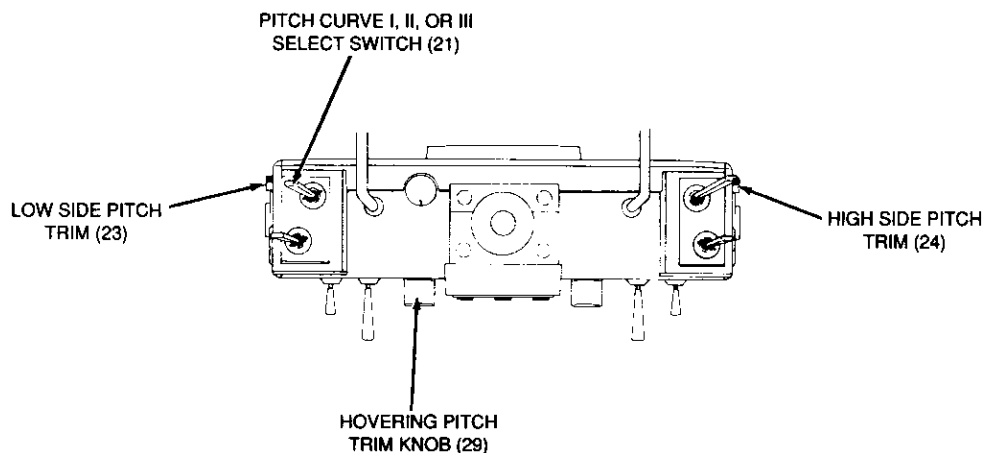

FIGURE 34
2. Low Pitch Level setting: Low-pitch can be set at any point on the throttle stick from 0 to 40% as shown in figure 34, and can be set from 0 to 100%.
The Hovering Pitch (H.P.) trim knob (29) at the top left face of the transmitter, Figure 34, provides for pitch trim adjustments during hovering.
“High Side” pitch trim is provided by the potentiometer lever on the right side of the transmitter; “Low Side” pitch trim is accomplished by the potentiometer lever (23) located on the left side on the transmitter, see Figure 34.